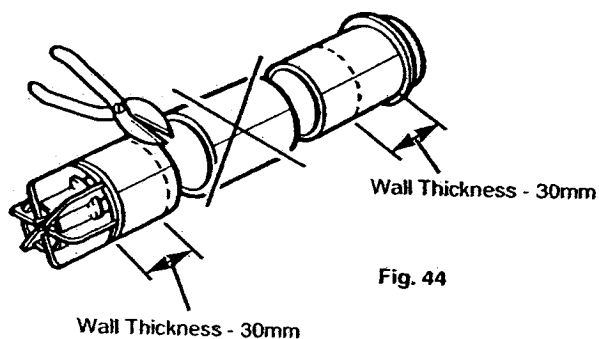

Fig. 44
9. If the wall thickness (W) plus the distance from the wall to the side of the boiler case (R) is less than 202mm (8 in), it will be necessary to cut the components of the air duct to make up the appropriate size. Dispose of the centre section as this is not required (Fig. 44).